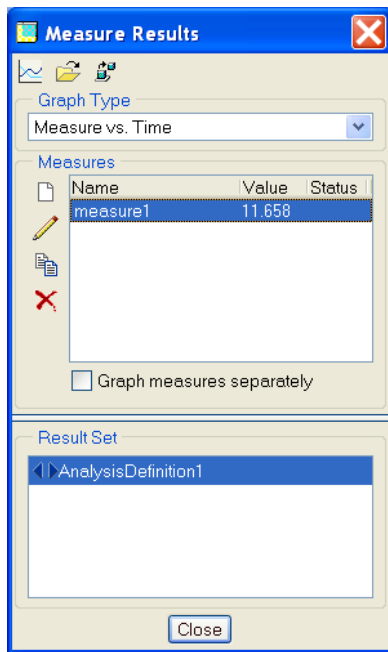

Figure 12
- j) On the **Measure Results** dialog box as shown in figure 12, select **measure1** under **Measures**, and **AnalysisDefinition1** under **Result Set**. (If you changed the result set name, select the appropriate name.) The **Graph Type** should be **Measure vs. Time**.